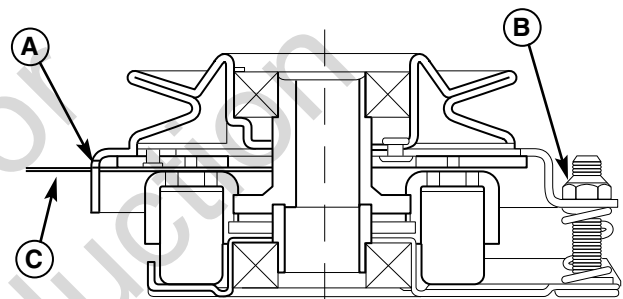

Figure 34. Adjust PTO Clutch
3. Insert a .012"-.015" (2,5-4mm) feeler gauge (C) through each window, positioning the gauge between the rotor face and the armature face as shown in Figure 34.